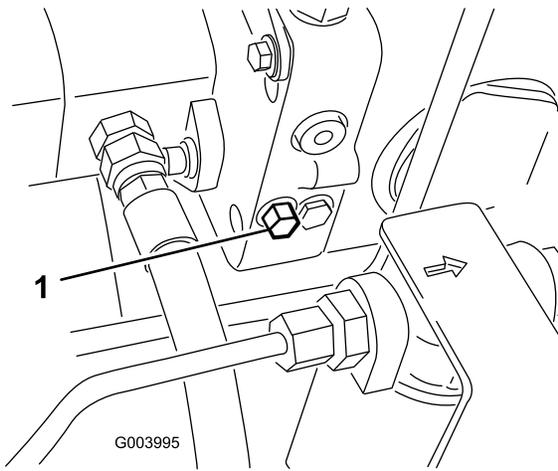

Figure 36
- The bypass valve is located on the left side of the hydrostat (Figure 36). Rotate the bolt 1-1/2 turns to open and allow oil to bypass internally. Because fluid is bypassed, the machine can be moved slowly without damaging the transmission.